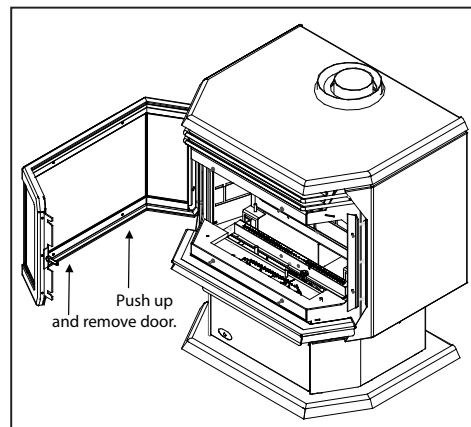

Figure 6: Removing the Door.
3. If the door must be removed open the door and lift the door pins out of the hinges (see figure 6).